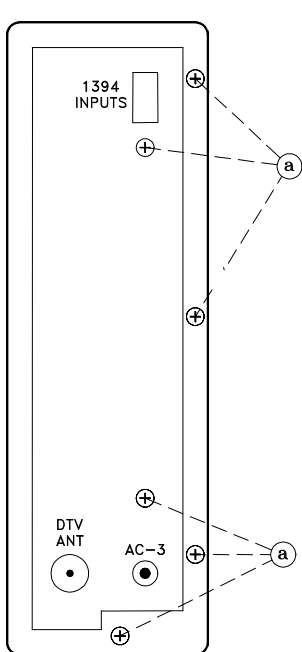

Figure 1: DM Rear Panel
2. Remove screws (a), to remove the DM Rear Panel, *Figure 1*.